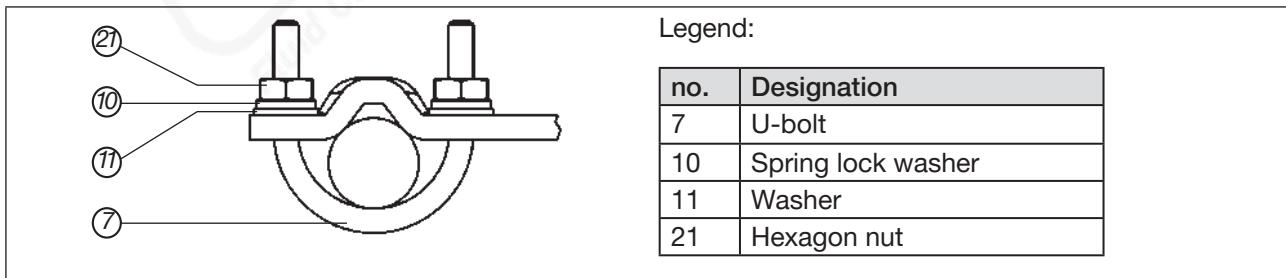

Figure 21: Attaching the positioner with the mounting bracket; for actuators with a columnar yoke
→ Attach the mounting bracket to the columnar yoke using the U-bolt ⑦, the washers ⑪, the spring lock washers ⑩ and the hexagon nuts ⑨ (see "Figure 21").